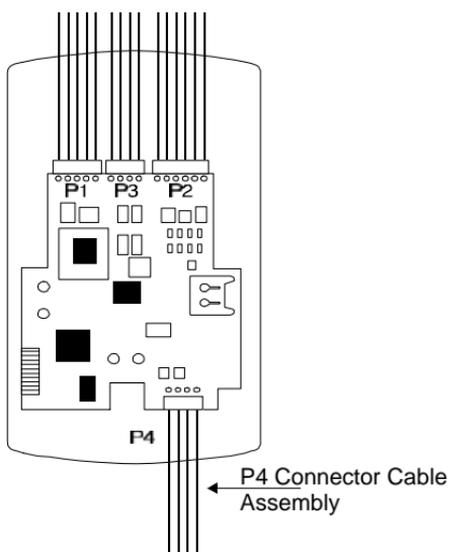
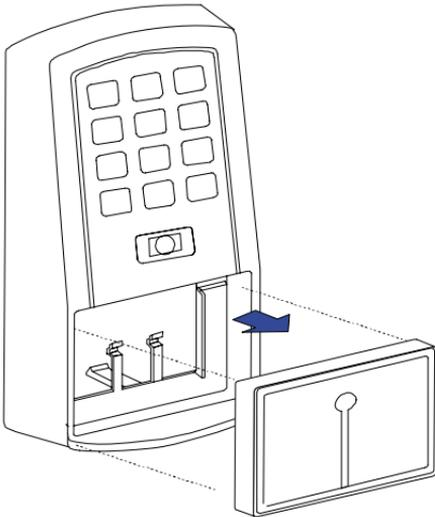

Figure 5 Removing the P4 Connector
Figure 6 Removing the Antenna Housing
To wire the EntryProx unit for a secure installation, refer to Figure 5 and Figure 6 and follow these instructions.
6. Remove the antenna housing from the controller keypad by pushing forward as shown in Figure 6.